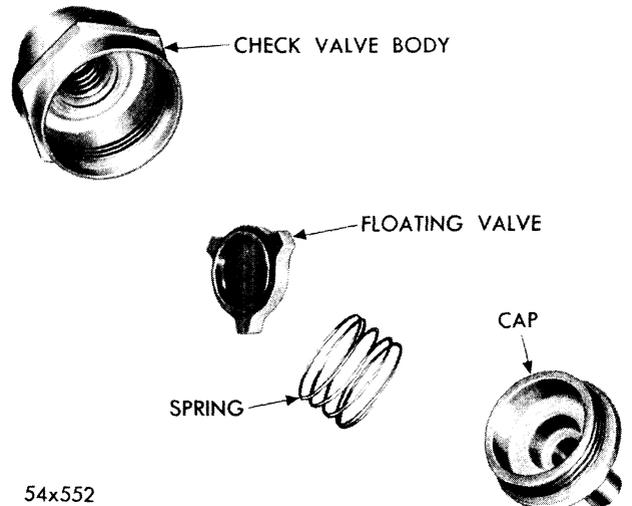

Fig. 75—Check Valve (Disassembled View)
- (1) With body assembly (cylinder side) on bench (flange down) remove vacuum check valve assembly. Remove and discard check valve to body "O" ring.
- (2) Position check valve assembly in vise (clamp on large hex on body) and remove check valve body cap.
- (3) Lift out check valve spring and floating valve assembly. Discard floating valve assembly but do not discard spring. (Refer to Fig. 75.)
*On later design power units the vacuum check valve floating valve (metal) has been replaced by the rubber plug type valve, as shown in Figure 75.*